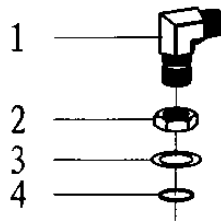

Fig. 7-13
13. Bend sub (9/16-18UNF) (Fig 7-13, Table 13)